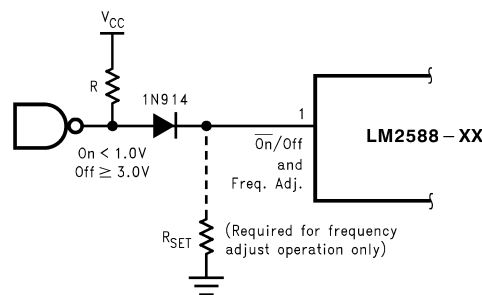

Figure 20. Shutdown Operation
- (1) All room temperature limits are 100% production tested, and all limits at temperature extremes are specified via correlation using standard Statistical Quality Control (SQC) methods.
- (2) To measure this parameter, the feedback voltage is set to a high value, depending on the output version of the device, to force the error amplifier output low and the switch off.
- (3) To measure this parameter, the feedback voltage is set to a low value, depending on the output version of the device, to force the error amplifier output high and the switch on.
- (4) To measure the worst-case error amplifier output current, the LM2588 is tested with the feedback voltage set to its low value (specified in Note 3 under the Electrical Characteristics: All Output Voltage Versions ⁽¹⁾ table) and at its high value (specified in Note 2 under the Electrical Characteristics: All Output Voltage Versions ⁽¹⁾ table).
- (5) When testing the minimum value, do not sink current from this pin—isolate it with a diode. If current is drawn from this pin, the frequency adjust circuit will begin operation (see Figure 20).
A feature of the LM2588 is its ability to be shut down using the $\overline{\text{ON}}/\text{OFF}$ pin (pin 1). This feature conserves input power by turning off the device when it is not in use. For proper operation, an isolation diode is required (as shown in Figure 20).
The device will shut down when 3 V or greater is applied on the $\overline{\text{ON}}/\text{OFF}$ pin, sourcing current into pin 1. In shut down mode, the device draws typically 56 μA of supply current (16 μA to V_{IN} and 40 μA to the $\overline{\text{ON}}/\text{OFF}$ pin). To turn the device back on, leave pin 1 floating, using an (isolation) diode, as shown in Figure 20 (for normal operation, do not source or sink current to or from this pin—see the next section).
The switching frequency of the LM2588 can be adjusted with the use of an external resistor. This feature allows the user to optimize the size of the magnetics and the output capacitor(s) by tailoring the operating frequency. A resistor connected from pin 1 (the Freq. Adj. pin) to ground will set the switching frequency from 100 kHz to 200 kHz (maximum). As shown in Figure 20, the pin can be used to adjust the frequency while still providing the shut down function. A curve in the Performance Characteristics Section graphs the resistor value to the corresponding switching frequency. The table in Table 1 shows resistor values corresponding to commonly used frequencies.